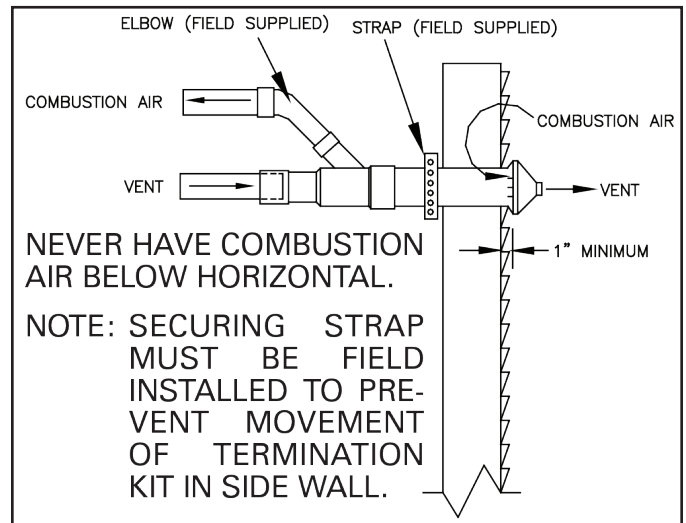

Figure 6 - Sidewall Installation
6. Secure assembly to structure using field supplied metal strapping or equivalent support material (see Fig. 6).
7. Cement air inlet and exhaust vent pipes to concentric vent termination assembly. See Fig. 6 for proper pipe attachment.